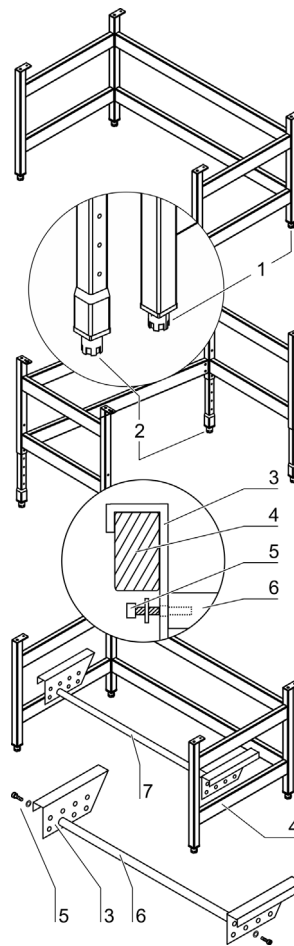

Figure 8. Leveling the device
2. **Figure 8:** Rotate the stands [1] of the rack using a 24 mm wrench so that the work-plate is exactly horizontal in all directions. Perform the height adjustment of the device stands from left to right and from rear to front.
Figure 8: The footrest [7] is attached to the two mounting brackets at the sides [3] in each of the lower crossbars [4] of both side frames. The height position and leg width of the support bar can be determined with the choice of the borings in the mounting brackets.